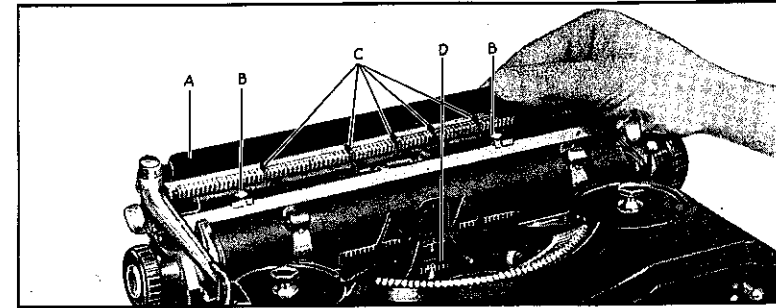

Fig. 3. Paper Table tilted to expose Margin and Tabulator Stops
23. TABULATOR KEY. Used for paragraphing, indenting, billing and all columnar work. (See Fig. 3.)